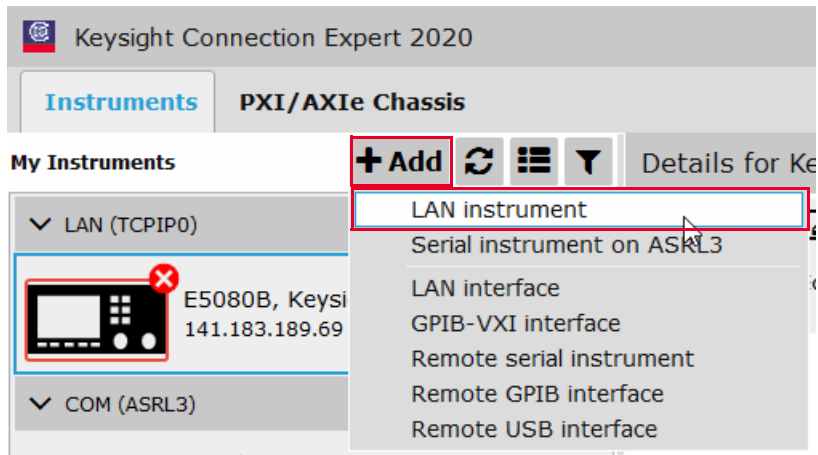

Figure 8-5 Adding a LAN instrument
- 2 Click the **+Add > LAN instrument** as shown in Figure 8-5.